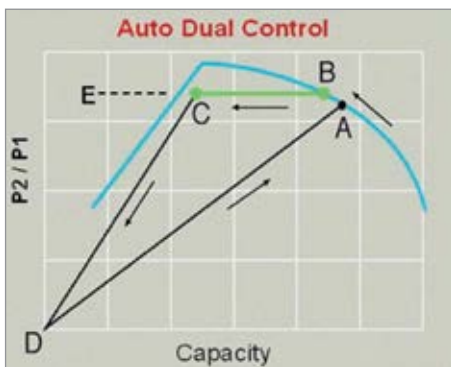

Fig. 1
**Auto-Dual Control (See Fig. 1)**
- The compressor discharge pressure set point (B) will be set at the desired level and the throttle or IGVs will modulate the compressor inlet to maintain constant discharge pressure over the control (B→C) range.
- At the surge control point (C), the IGVs stop closing, allowing the discharge pressure to rise to the unload set point. At this moment, the compressor will unload (IGVs close and unloading valve fully opens).
- The compressor remains in the unloaded condition until the system pressure declines below the preset load set point (A), the compressor resumes load at full flow, and the cycle is repeated.